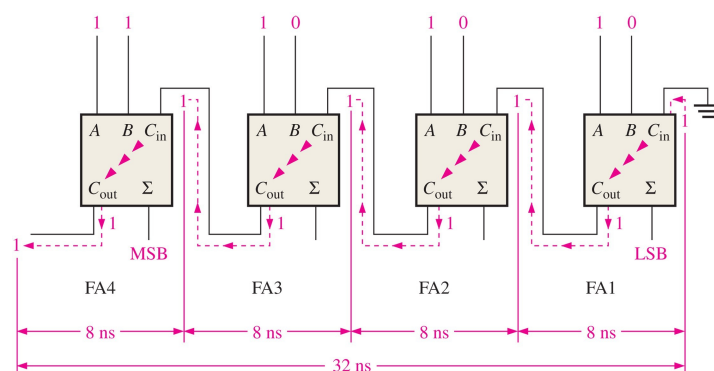

Figure 1: A schematic of a 4-bit adder with delays marked in nanoseconds.
1. Keep it simple: answers involving complex logic circuits may be given using block diagrams. For example, Fig. 1 depicts a 4-bit adder without showing individual XOR gates. If the exercise calls for single gates, however, provide the design at that level of detail.
1. Consider Fig. 1, in which a 4-bit adder is depicted. Assuming a uniform worst-case delay of 8 ns from carry-in to carry-out for each stage, the total delay is 32 ns. (a) At what maximum frequency can this circuit perform additions, if the delay must be less than a clock period? (b) What would the result in (a) be if the adder was extended to 8 bits? (c) Create a timing diagram showing the addition of the numbers in Fig. 1. **Bonus:** include the timing delays, and indicate the clock period.